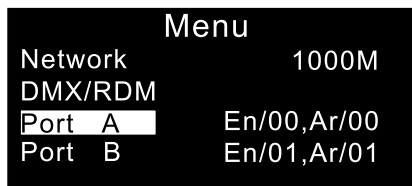

Fig7.2-1
2. Set the input signal status. Touch  and select the four ports of **Port A/B/C/D** to set parameters. For example, select **Port A** and press  to enter the next menu, as shown in Figures 7.2-1 and 7.2-2.